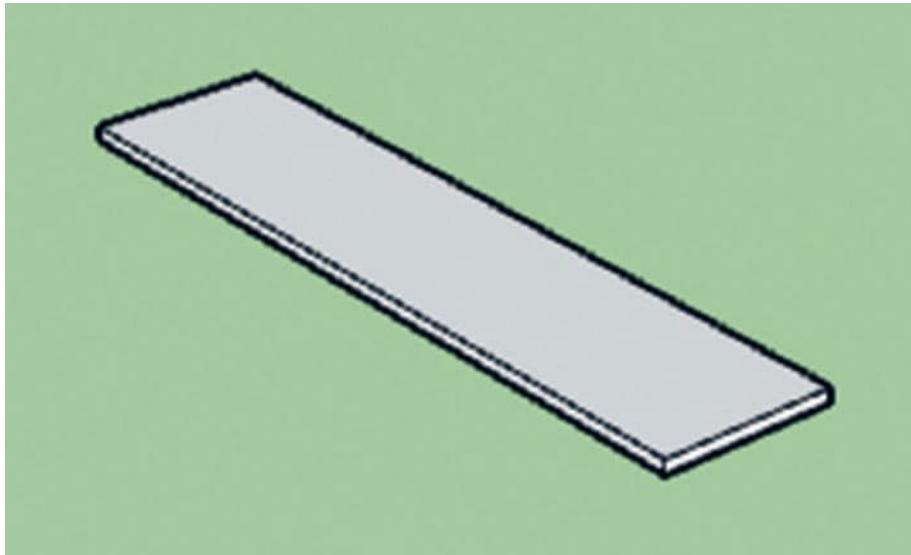

FIG. 1: Create the base of the menu holder from a rectangular strip.
1. The base of the menu holder is simply a narrow rectangular strip that is no more than 2 mm thick. The length should be more than 50 mm (fig. 1).